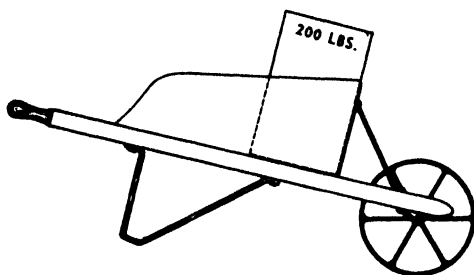

FIG. 70. WHEELBARROW.
7. A box weighing 200 lbs. is being moved in a wheel barrow, Fig. 70. The load is 18" from the axle of the wheel and the hands are  $4\frac{1}{2}'$  from the axle. Make an accurate diagram and calculate (a) the effort needed to lift the handles (b) the M. A.